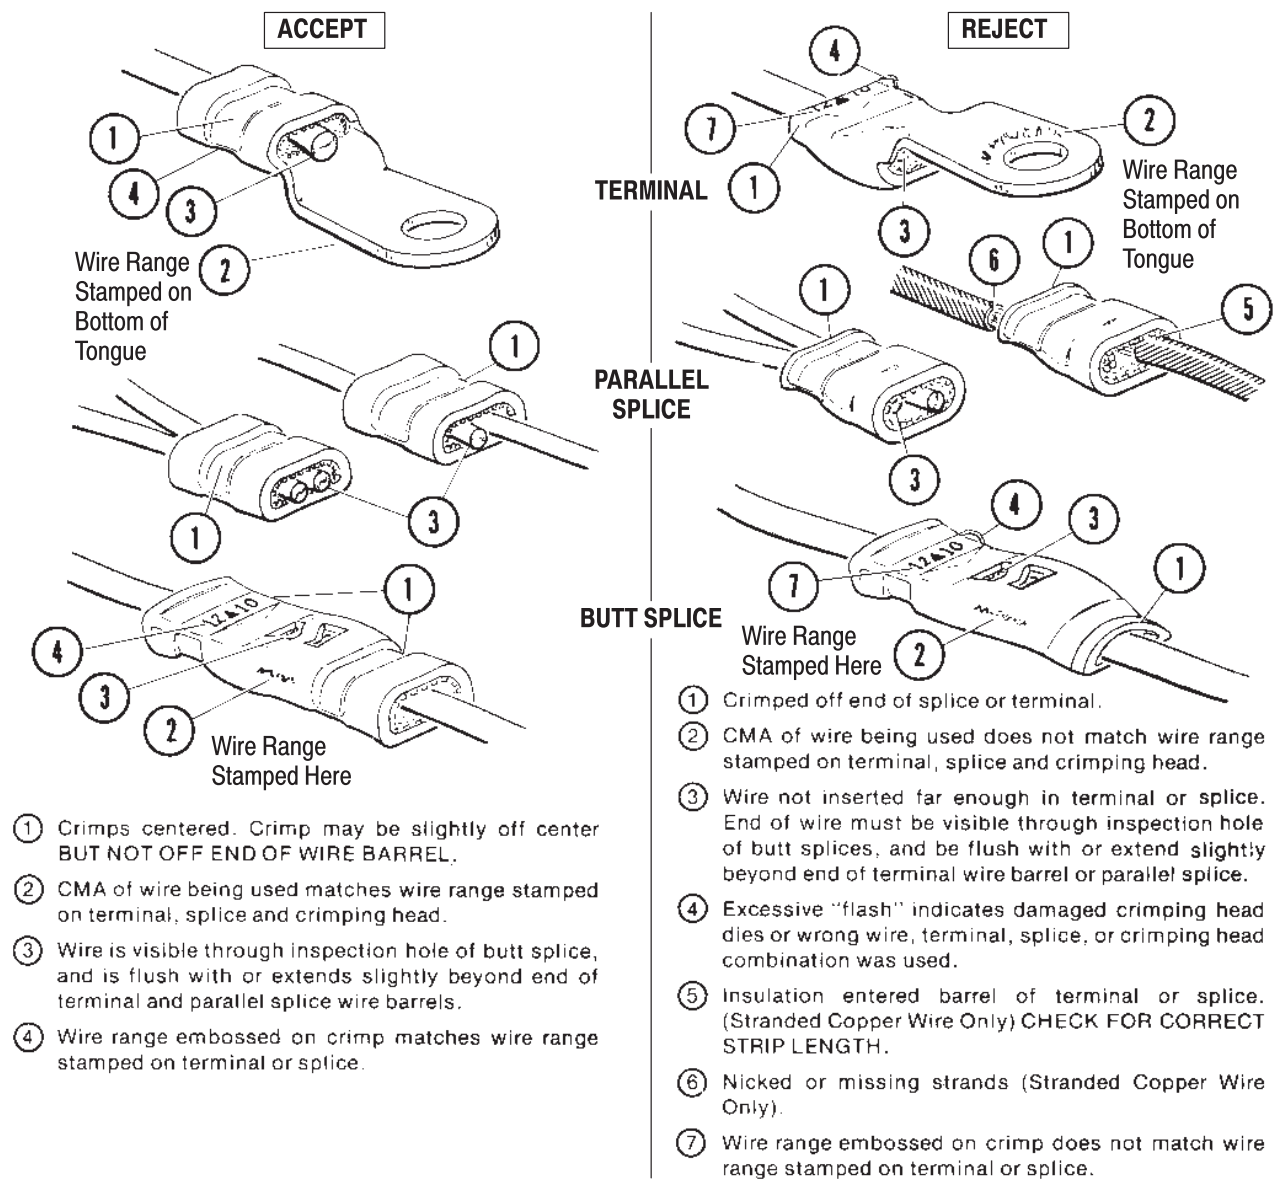

Figure 5
5. Refer to Section 3 and Figure 5 for crimp inspection.
6. Refer to Section 3 and Figure 5 for crimp inspection.
4. Refer to Section 3 and Figure 5 for crimp inspection.
Inspect crimped terminals and splices by checking the features described in Figure 5. Use only the terminals and splices that meet the conditions shown in the "ACCEPT" column. "REJECT" terminals and splices can be avoided through careful use of instructions in Section 2, and by performing regular crimping head maintenance as instructed in Section 4.